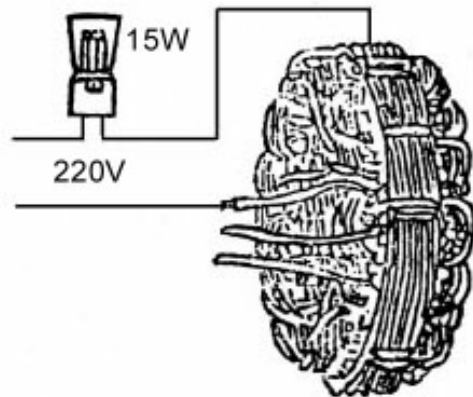

Fig. 6-34 Test circuit with stator coil insulation
⑥ Check stator. Test the insulation between slip ring, jaw and iron core with 220V alternating voltage (See Fig. 6-34). A bulb should be connected in series in the circuit. If the bulb light is red and bright, it means the insulation has breakages and they need to be dismantled and repaired.
⑦ Maintenance on bearings. Wash bearing